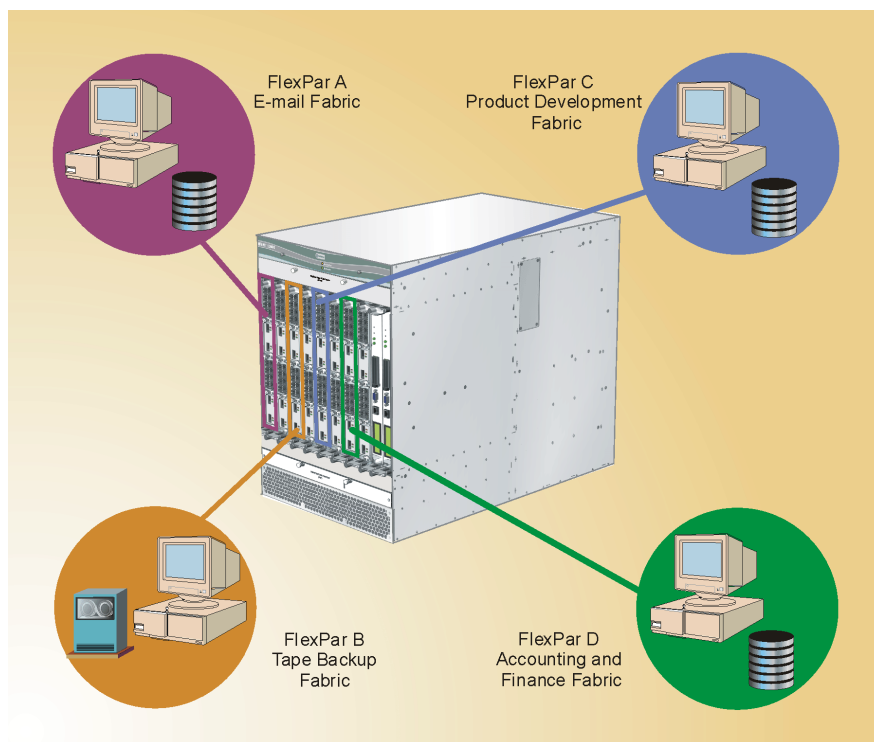

Figure 4-1 Intrepid 10000 Director FlexPar Functionality
Up to four partitions can be enabled for each director (0 through 3), where a partition consists of one or more line modules (LIMs). User access and Fibre Channel traffic (Class 2, Class 3, and Class F) are isolated within each partition. However, the director ships with only a master FlexPar (0) enabled, allowing management and administration from a single point of control. Figure 4-1 illustrates director FlexPar functionality.